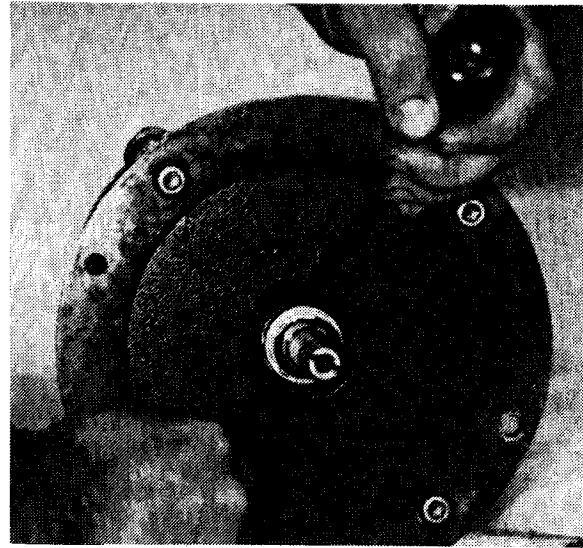

FIG. 17
8. Pry carbon portion of seal from shaft by using flat blade screwdrivers on each side of shaft. **DO NOT SCRATCH SHAFT.** It does not matter if carbon cracks as it may be replaced with new part. See Figure 17.